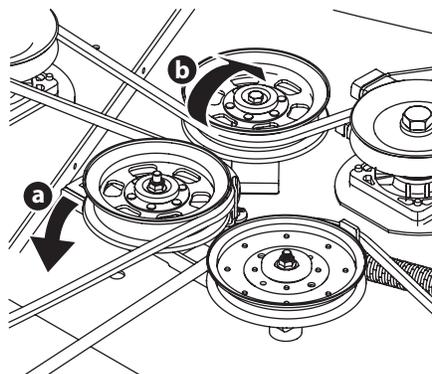

Figure 4-14
- b. Working from the middle of the tractor, pivot the idler bracket and movable idler pulley rearward away from the backside of the 'V' belt (a) just far enough to lift the belt up and over the idler pulley (b). See Figure 4-14.